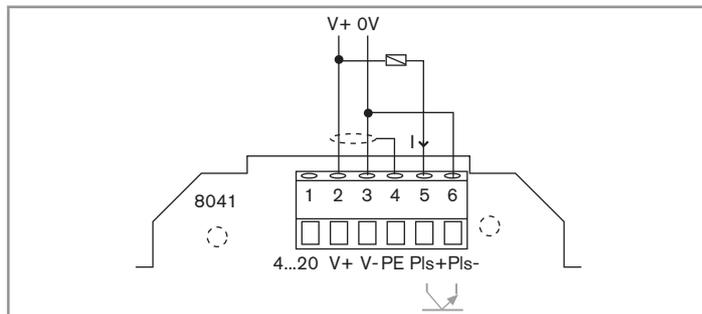

Fig. 21 : Connection of the frequency output to an electromechanical counter or a relay
- or to a load such as an electromechanical counter or a relay (see Fig. 21),